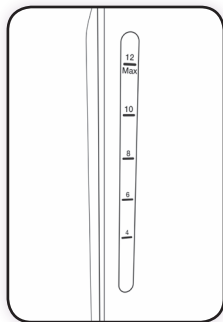

Figure 11
- Do not fill past the “12 cup MAX line” on the water window or water will flow out of the overflow hole in the back of the coffeemaker. (Figure 11)